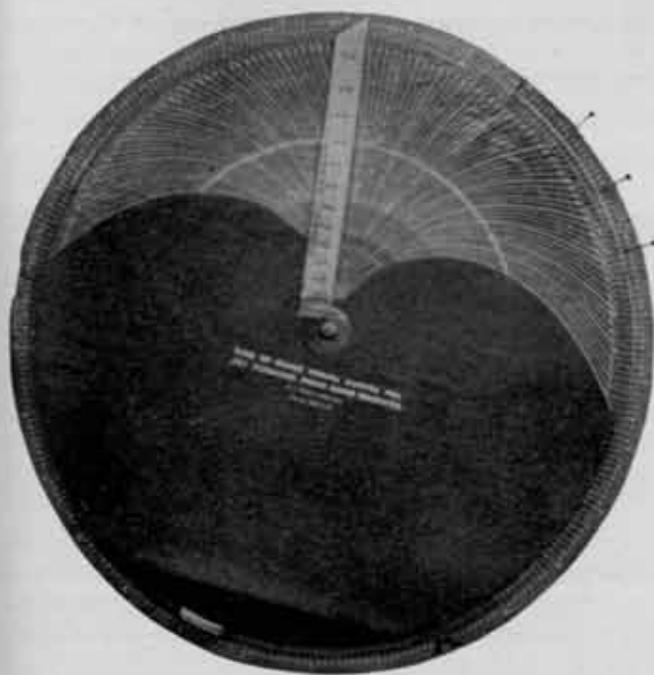

Figure 4: Set forward point range computer
*General Description.* Figure 4 illustrates a device for determining the range to set-forward point without the use of a plotting board when the range parallax correction does not exceed 1,000 yards. The device consists of a heavy cardboard or plyboard disc of about 20 inches in diameter upon which is mounted a circular scale constructed as follows:
Since this device is based upon rate of change it will be apparent that ranges can continue to be sent out even though the target becomes obscured from the range finder, and will be correct as long as the rate of change continues the same. When tracking a target following a straight course the ranges from a self contained base range finder or from a DPF will not normally be uniform in rate of change. For this reason it is better for operator No. 1 to establish an average rate of change and to move disc *B* so the yellow pin is opposite the expected reading rather than to use the actual reading from the range finder if the actual reading varies greatly from the expected reading and there has been no report that the target has changed course. For this purpose he may use several extra green pins in order to get a better average rate of change. This procedure will speed up operations as No. 1 may actually begin reading before the bell rings, since he will be using the expected range and will use the ranges received from the range finder to keep the course adjusted. Where the rate of change in range is very great the accuracy of operation will be improved if No. 2 will note the rate of change during one observing interval and set a pin in scale *B* ahead of the reading edge of the range arm by this amount. He will now use the reading on scale *A* opposite this pin in setting his range arm rather than the range to SFP. The lock nut on the bolt holding the three discs and the range arm together must be adjusted so that discs *B* and *C* and the range arm will move together until pressure is applied to make them move independently. When disc *C* is moved the range arm should move with it to prevent changing the setting of the arm. A small handle should be fastened to disc *B* as shown in Figure 4 to permit it to be moved readily.